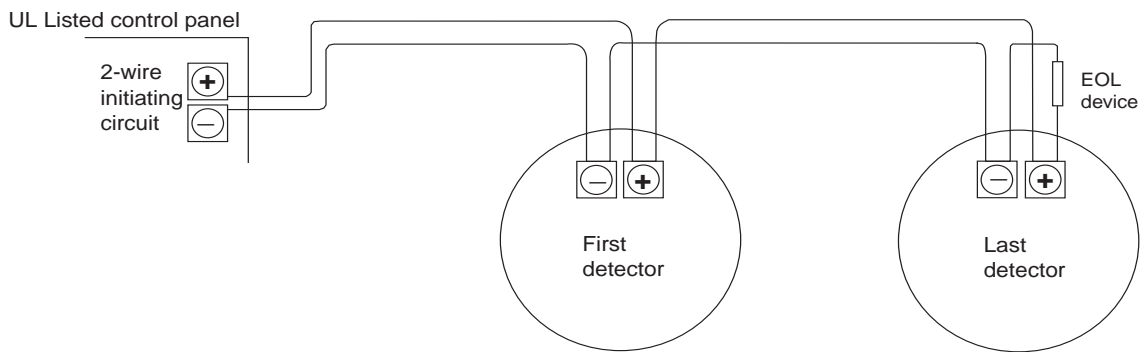

Figure 3 - Wiring Diagram
5. Strip the system wires and connect them to the appropriate terminals on the detector. See Figure 3.